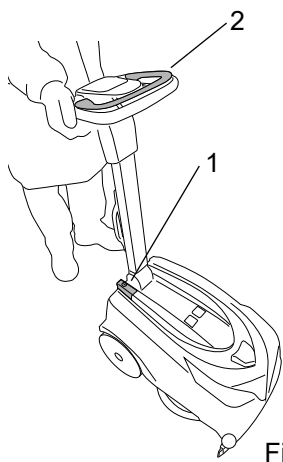

Fig.14
- Main switch (fig. 14, ref. 1): connects and disconnects electrical power to and from all functions of the machine.
- Power on light (mains powered model) (fig. x, ref. x): colour yellow, indicates that the power cable of the machine is connected to the mains supply and the main switch has been depressed (fig. 14, ref. 1).